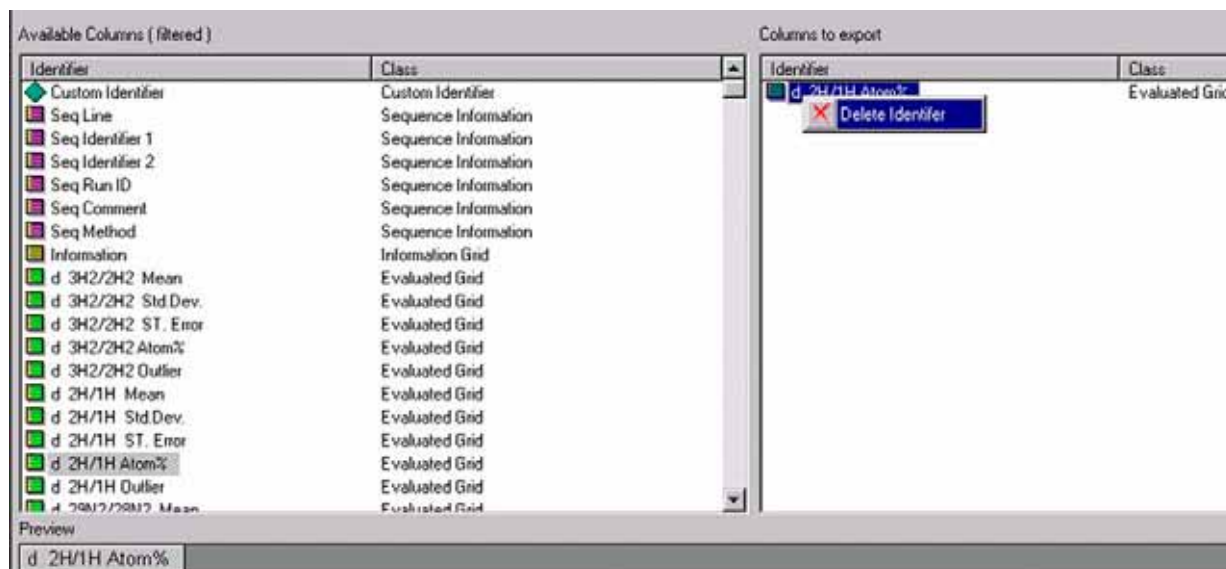

Figure 6-58. Deleting Identifiers
2. Select **Delete Identifier**. See Figure 6-58.